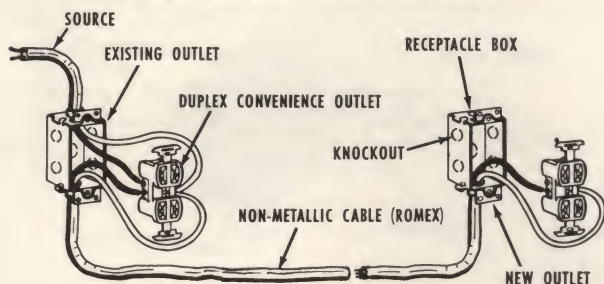
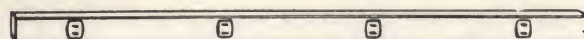

FIG. 47—PLUG-IN OUTLET ADDED
FIG. 51—PLUG-IN STRIP WIRING
**ADDING MORE PLUG-IN OUTLETS.** For modern wiring, it is recommended that there be at least one plug-in outlet every 6 feet along the baseboard in the living room, bedrooms and other general living areas so that an extension cord is never needed. Wiring from one plug-in outlet to another is easy. (See Fig. 47.) Install extra outlets with 2-wire, non-metallic sheathed or armored cable, or two wires in conduit. A handy "plug-in strip" (Fig. 51) provides as many outlets as desired. It mounts above baseboard, over countertop in kitchen, in work shop, etc. *Do not load beyond capacity of circuit.*